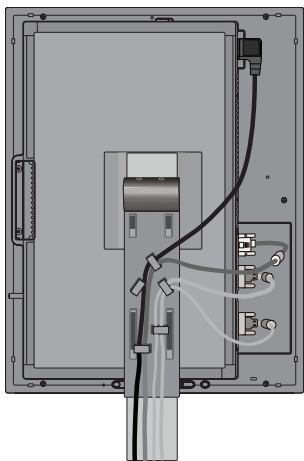

Figure C.3
Place the DVI cable and the 15-pin mini D-Sub to DVI-A cable (not included) into the hooks as indicated (**Figure C.3**).
7. Make sure all cables are resting flat against the stand (**Figure C.3**).